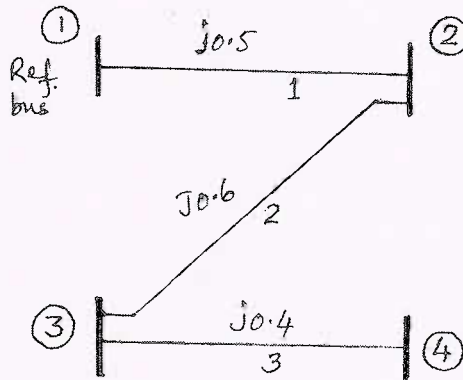

Fig.Q10(b)
- b. Form Z_{bus} using building algorithm of the power system shown in Fig.Q10(b). Self impedance of elements are marked on the diagram. Add elements in the order specified. Neglect mutual coupling. Take bus-1 as reference bus.